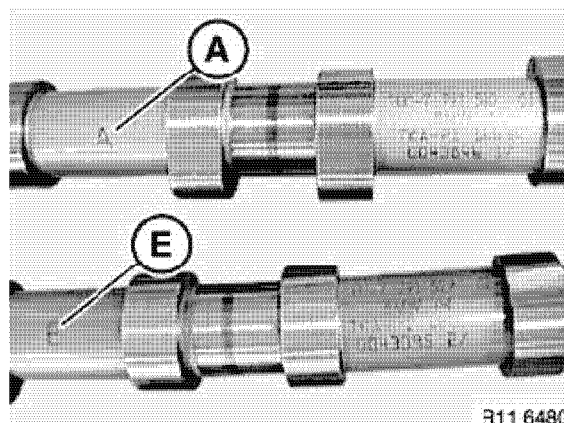

Figure 5-102
- Identify the intake (E, **Figure 5-102**) and exhaust (A, **Figure 5-102**) camshafts.